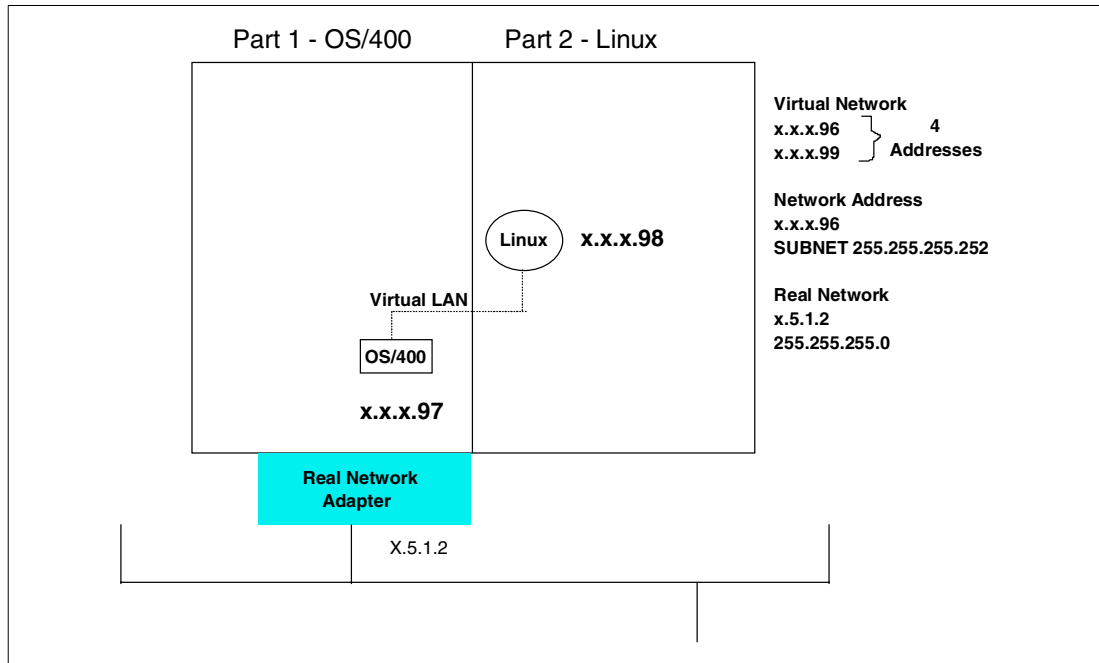

Figure 11-37 Example network
- ▶ Strictly interpartition communication. This is the simplest possible scenario. However, by way of example, it may serve a purpose. The OS/400 and Linux must be on the same network, but the addressing scheme is really only significant within the particular OS/400 since there is no network access externally. We mention it as a situation that requires no subnetting. This setup could be used to FTP data to and from the Linux partition, but there would be no access to the network unless the Linux partition had a directly attached (Native) LAN adapter. A more complicated scenario in which this may be useful would be in that scenario when a Firewall is involved (Figure 11-37).
The network to be configured is shown in Figure 11-37. The external network segment connected to OS/400 is X.5.1.0, subnetted as 255.255.255.0, which means that there are potentially 256 minus 2 (or 254) usable host addresses. The virtual LAN is the equivalent of a separate LAN segment in this configuration. That is it appears to the machine as if it were a separate Ethernet network. In this context, the OS/400 is serving as a router between two separate networks. TCP/IP is routed from hop to hop. This means that the virtual LAN must be a subnetwork of the x.5.1.0 network. In turn, this means that a subset of the 254 usable addresses must be converted to network bits using the subnet mask to limit the number of hosts and expand the number of networks available. The 255.255.255.252 masks off all hosts bits except two. Two bits means that there are four possible combination of bits available to use as hosts – 00, 01, 10, and 11. However, TCP/IP mandates that all zeros are reserved for the network address and all ones are reserved for the broadcast address. Therefore, out of the four combinations, only two are usable. The subnet mask we used (255.255.255.252) defines each subnet as having four possible hosts, but only two usable ones. This explains the necessity of blocks of four addresses and the masking mechanism dictates that the network address be a multiple of four (in order to subnet to a 00 address).